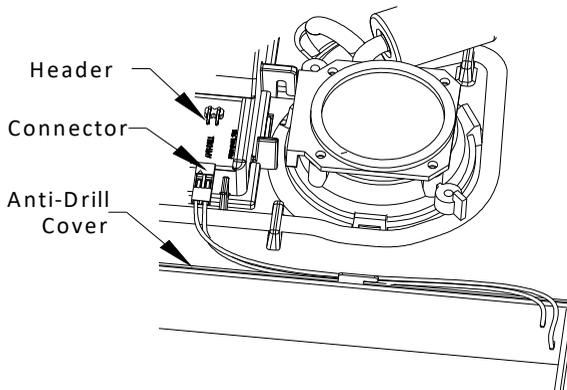

**Fig 5: Fitting of Ferrite**
- 6) Fit ferrite onto cable as shown in figure 5, ensuring that it does not interfere with the operation of the micro switch.